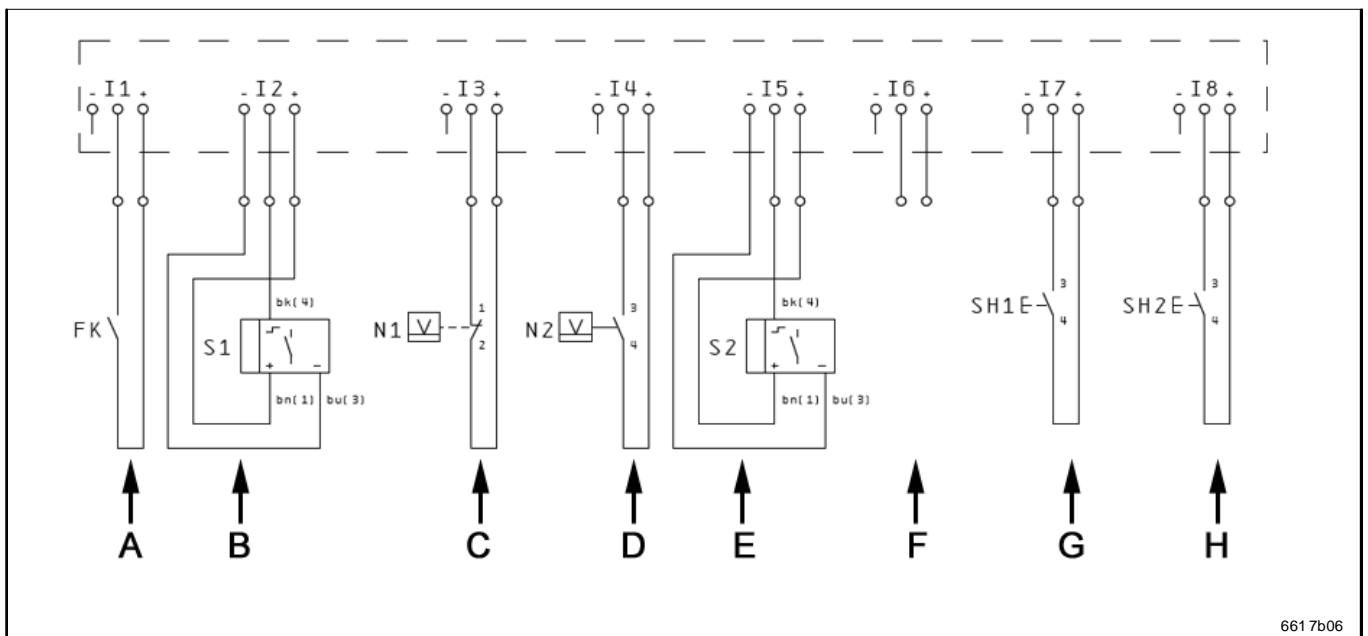

Fig. 6 Signal input connection
1) or, if applicable, externally via switch H (see Fig. 6)